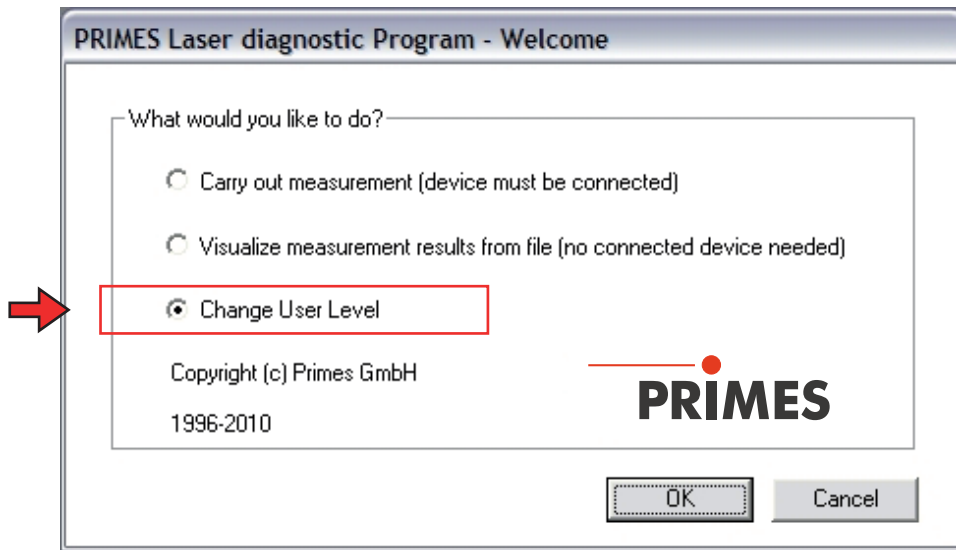

Fig. 21.13: Welcome window
1. Select “Change User Level” as shown in Fig. 21.13), type in the password for the user level **Expert** and click on **OK**.